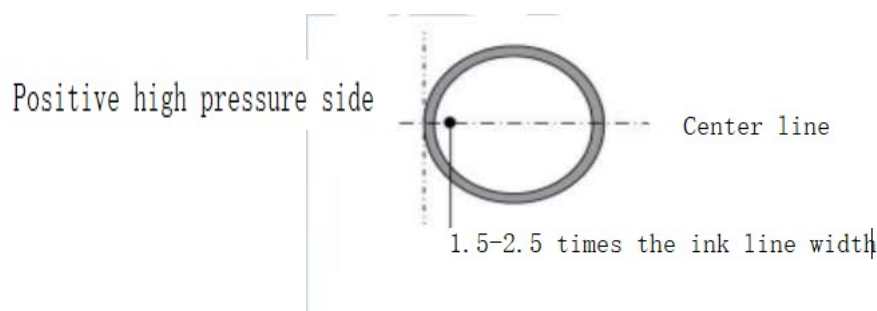

Figure 3-5
5、 Switch [Ink valve] to ON and adjust the ink line to enter the recovery tube, as shown in Figure 3-5.